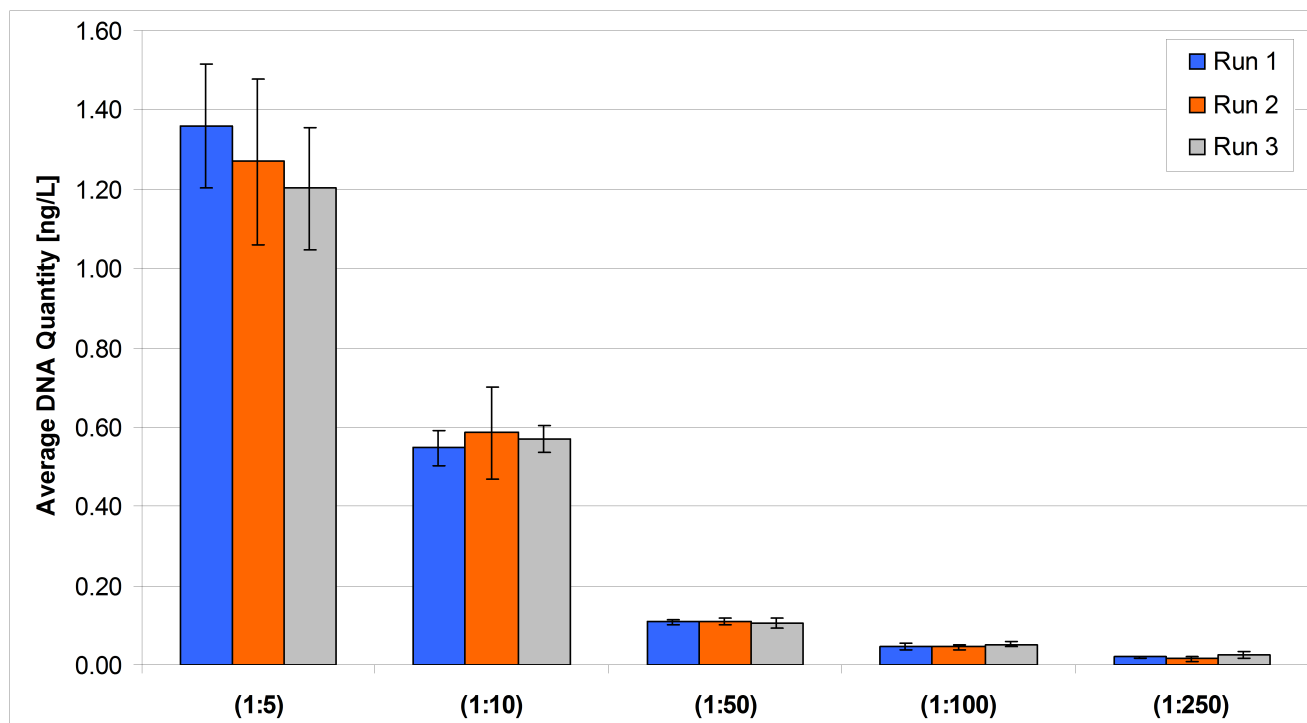

Figure 22 HID EVOLution™ —Extraction System—Average DNA concentration (ng/μL)
- Average peak heights are shown in Figure 22 on page 118